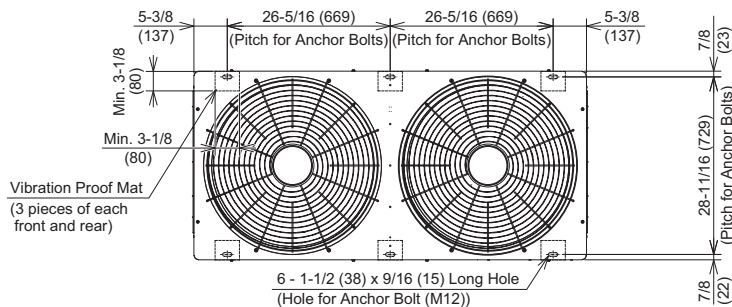

Figure 5.4 Positions of Anchor Bolts
- (4) Provide a strong, level, and stable foundation so that:
- (5) When installing the outdoor unit, secure the unit with anchor bolts and field-supplied vibration-proof mats. Refer to Figure 5.4 for the location of holes for anchor bolts.